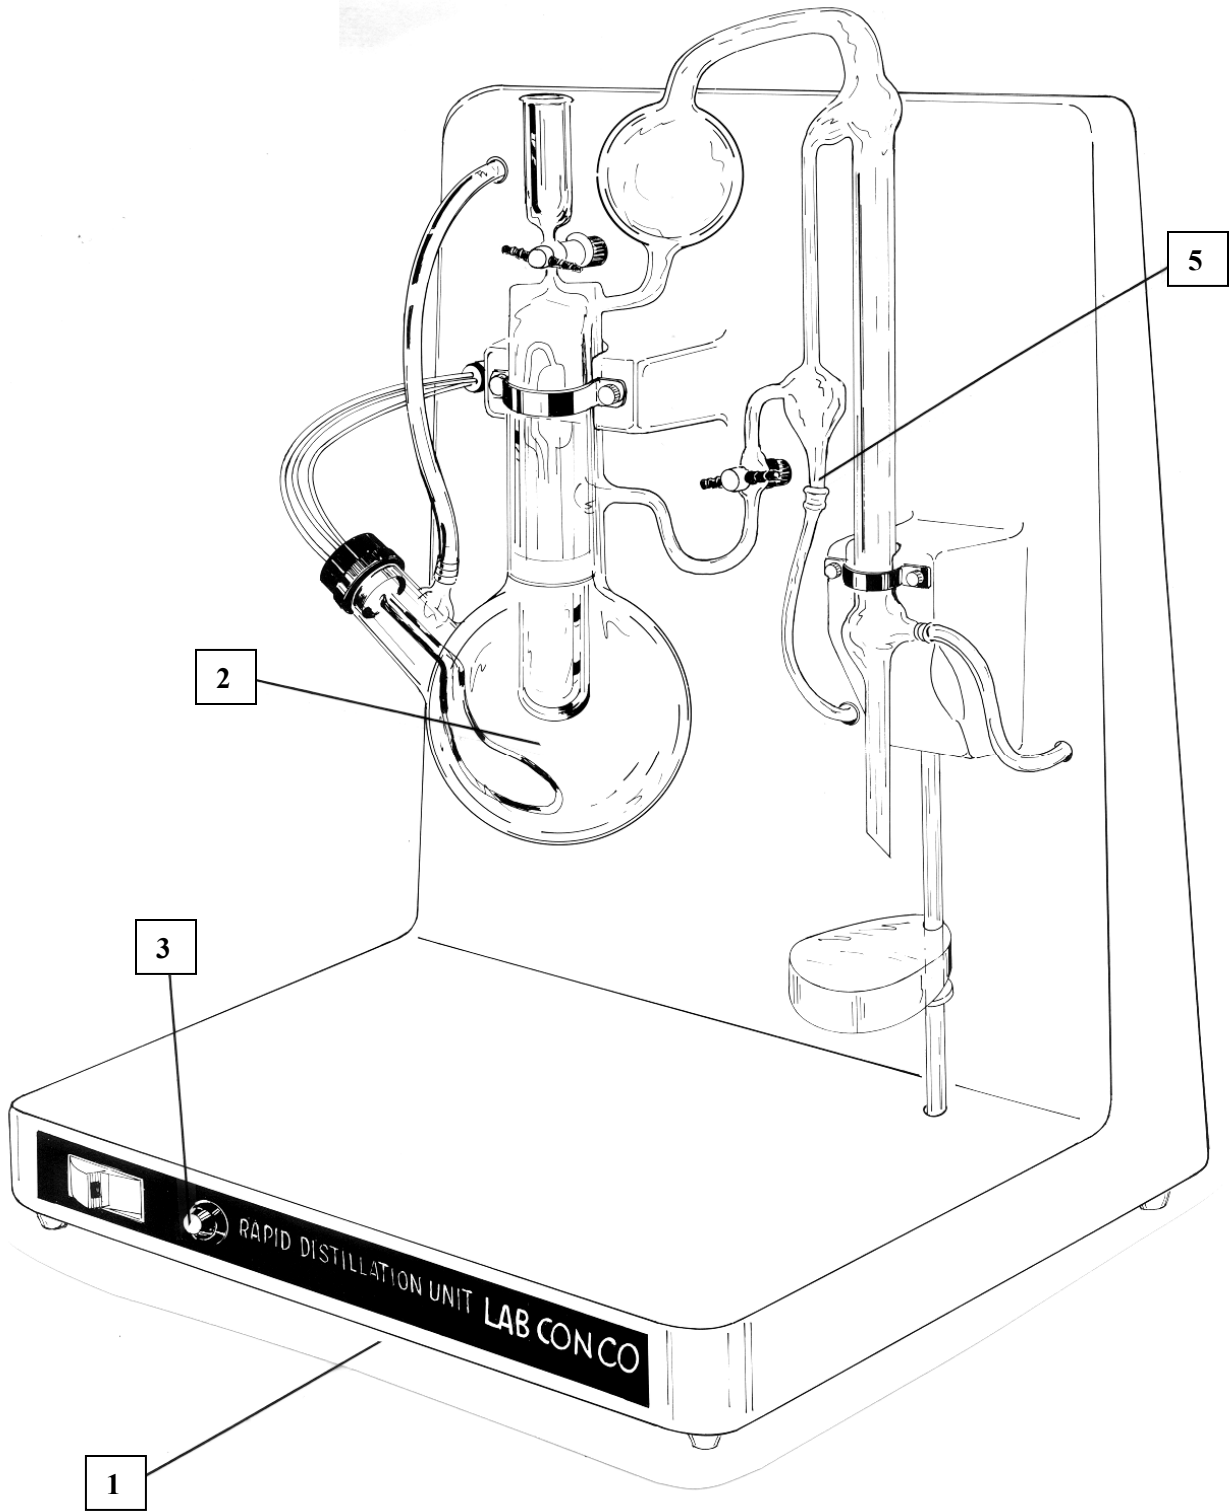

Figure 2
- (1) Remove the condenser clamp screws and clamp from the console.
- (2) Lay the console unit on its back and position the glass still assembly on the console, lining up the glass trap and condenser sections, as shown in Figure 2.
- (3) Replace both the large and small clamps, insert and tighten down the clamp screws until the glassware is firmly attached to the console.
- (8) Insert heater assembly in steam reservoir (see labeled diagram in Figure 2).